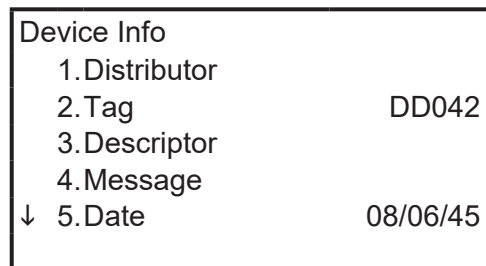

Figure 50 Device info menu
2. The device info menu (Figure 50) shows you a list including tag, description, message and date. Select the one that you want to change. Figures for these are shown respectively in Figure 51 to Figure 54.
As already described in section 3.1, settings that do not affect the output such as tag and others can be set from the device info menu (Figure 50). This menu also enables the user to verify such information as distributor, write protect, etc.